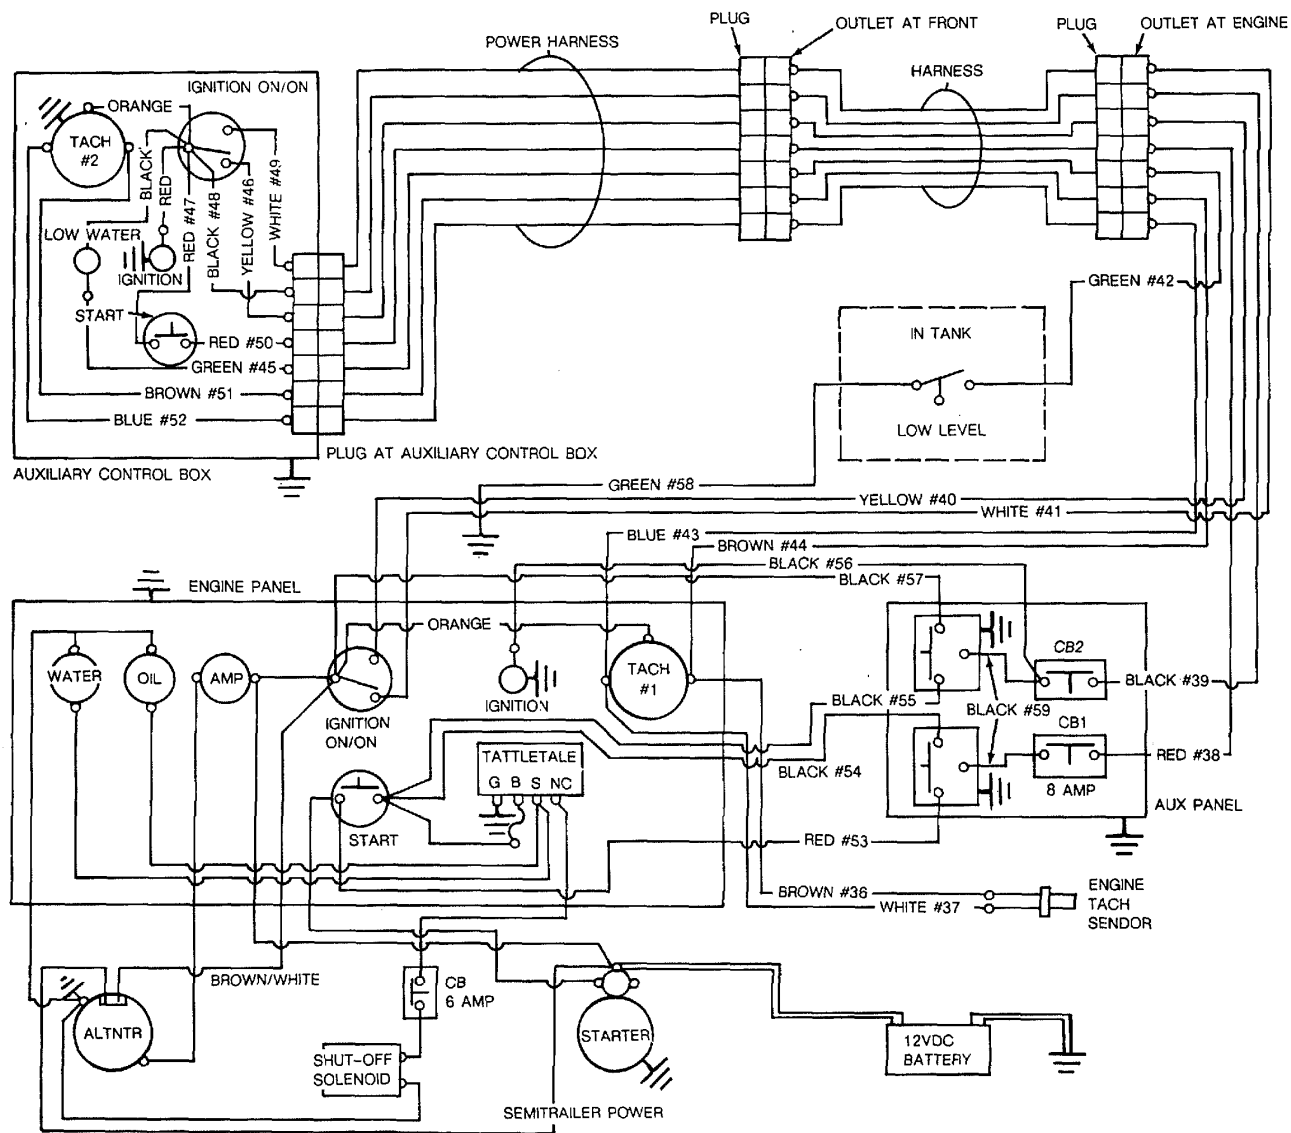

Figure 4-2. Engine Wiring Diagram.
- h. Ensure that all hose connections and electrical connections are secure. Replace any chafed, frayed, or damaged hoses, wires or fittings (see Figures 4-2 through 4-4).